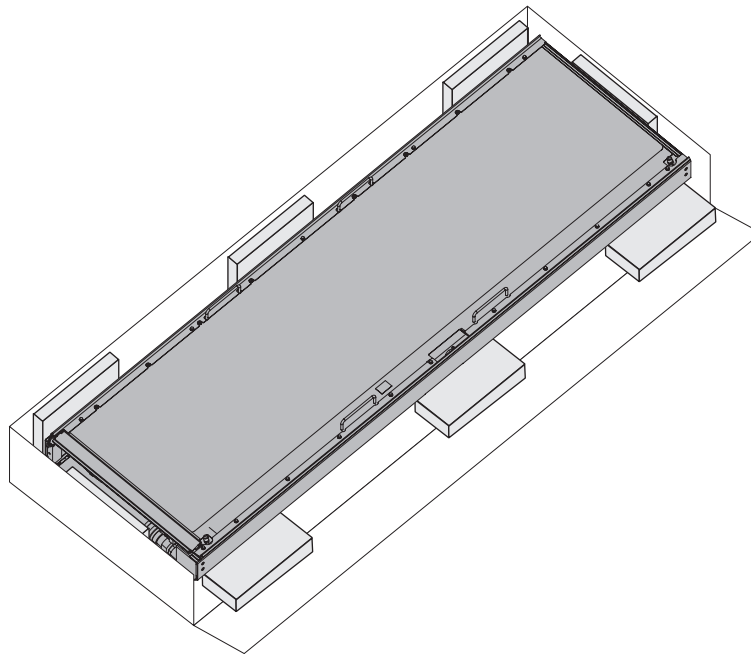

Figure 22. Folding down the carton and placing the packing inserts evenly on the unfolded cardboard
13. Place three of the rectangular cardboard packing inserts evenly on the unfolded cardboard. See Figure 22.